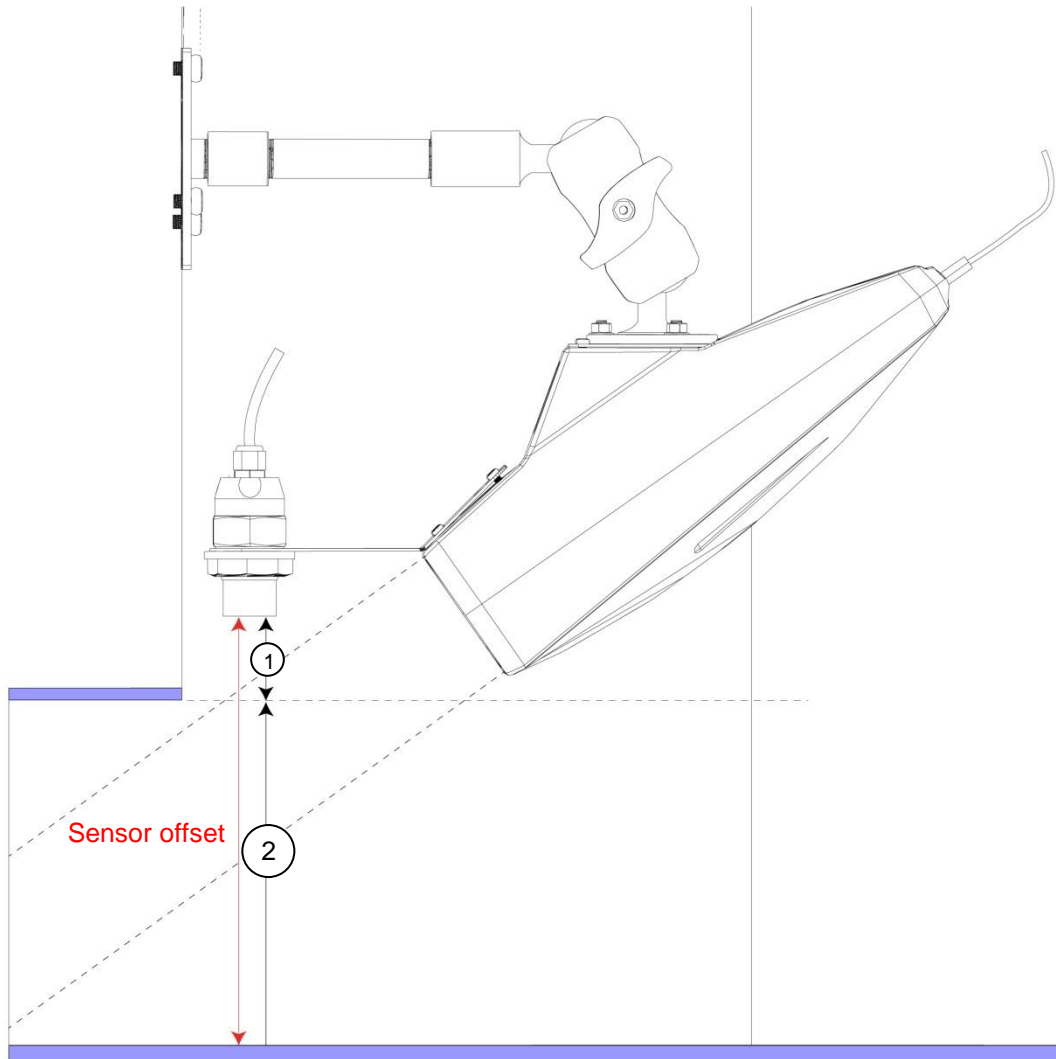

Figure 20: Sensor offset
1. Put the rod in the bottom of the pipe or channel and align it vertically with the level sensor (Figure 20).
Note: *If it is not practical to measure to the bottom of the pipe, measure the distance from the crown of the pipe to the top of the frame (Figure 20). Add this distance to the pipe diameter to get the sensor offset (sensor offset = pipe diameter + distance from crown of the pipe to top of frame).*